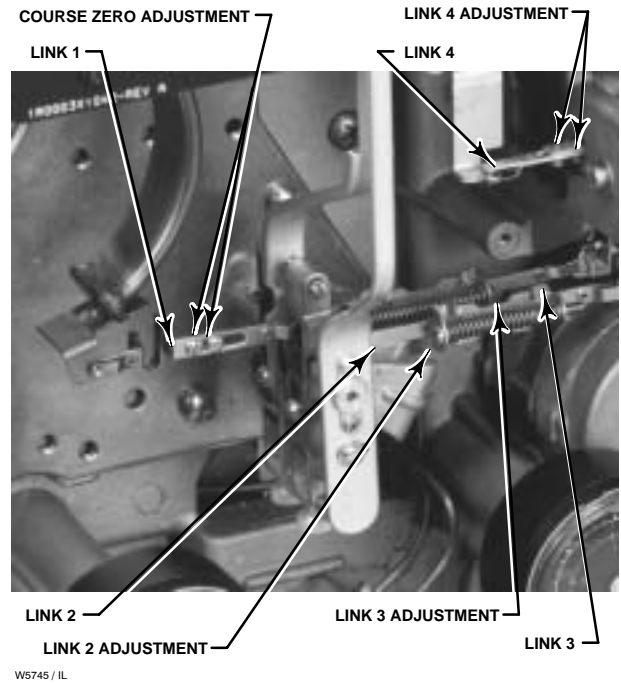

Figure 6-13. Bourdon Tube Controller Link Locations and Adjustments
Refer to figure 7-2 for key number locations. Refer to figure 6-13 for a detailed photograph of the Bourdon tube controller link locations and adjustments.
This section describes the separate replacement of four links in the controller. Figure 6-13 shows the location of each link. To clarify the location of each link, the links are numbered as follows:
1. Remove the two screws (key 6), and lift off the proportional band indicator cover (key 36).
2. Disconnect link 2 from the process pointer and from the flapper assembly (key 11). Remove the link.
3. Install the replacement link with the screw head nearest the process pointer as shown in figure 6-13. Connect the link to the process pointer only.
2. Disconnect link 3 from the set point indicator and the set point beam assembly (key 23).
4. Install the replacement link with the screw head toward the set point beam assembly as shown in figure 6-13.